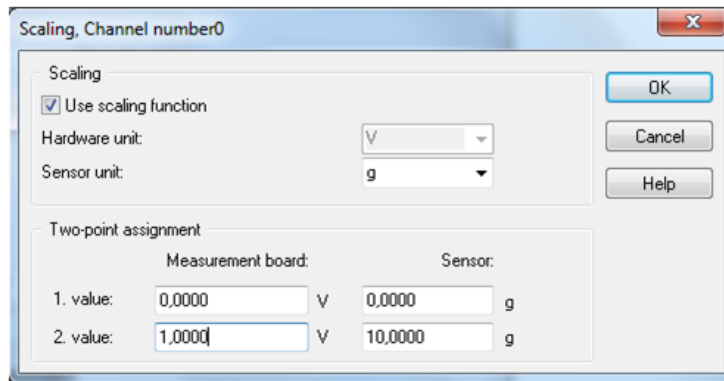

Figure 6.6 // Scaling, Channel number window
- » Scale the measurement results. Clicking on the Channel Scaling button opens Scaling window (Figure 6.6). Selecting Use scaling function checkbox allows to scale the measurement results, thanks what the module displays the measured value in proper units instead of the voltage in [V]. The Sensor unit field allows to enter required unit symbol. Below it there is a section used to define the scaling function: in an example shown in Figure 6.6 input voltage of 0 [V] is equivalent to acceleration of 0 [g], while voltage of 1 [V] is equivalent to acceleration of 10 [g]. The change of the scaling is confirmed by clicking the OK button.